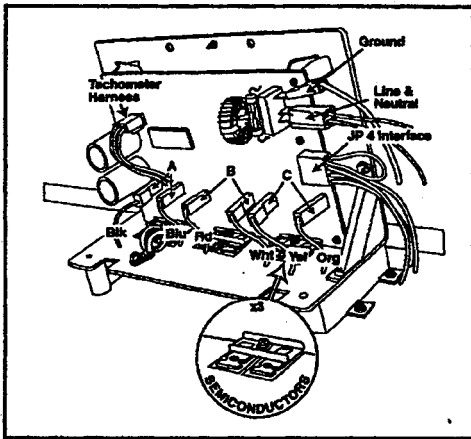

Figure 2-56
1. Disconnect power to the machine & connect a power test cord to the Line & Neutral terminals of the Motor Control board. (Figure 2-56).
- a. Check the 10 amp fuse located on the control board, either visually or with an ohm meter. If bad, replace motor control/wire harness assembly completely (*Figure 2-56*).
To gain access to the Motor Control Board terminals: (*Figure 2-56*)
6. Connect the power test cord to the Ground wire, Line 1 and Neutral wires. (Leave the JP4 connector off the board.) (*Figure 2-56*).
2. Disconnect power to the machine & connect a power test cord to the Line & Neutral terminals of the Motor Control board (*Figure 2-56*).